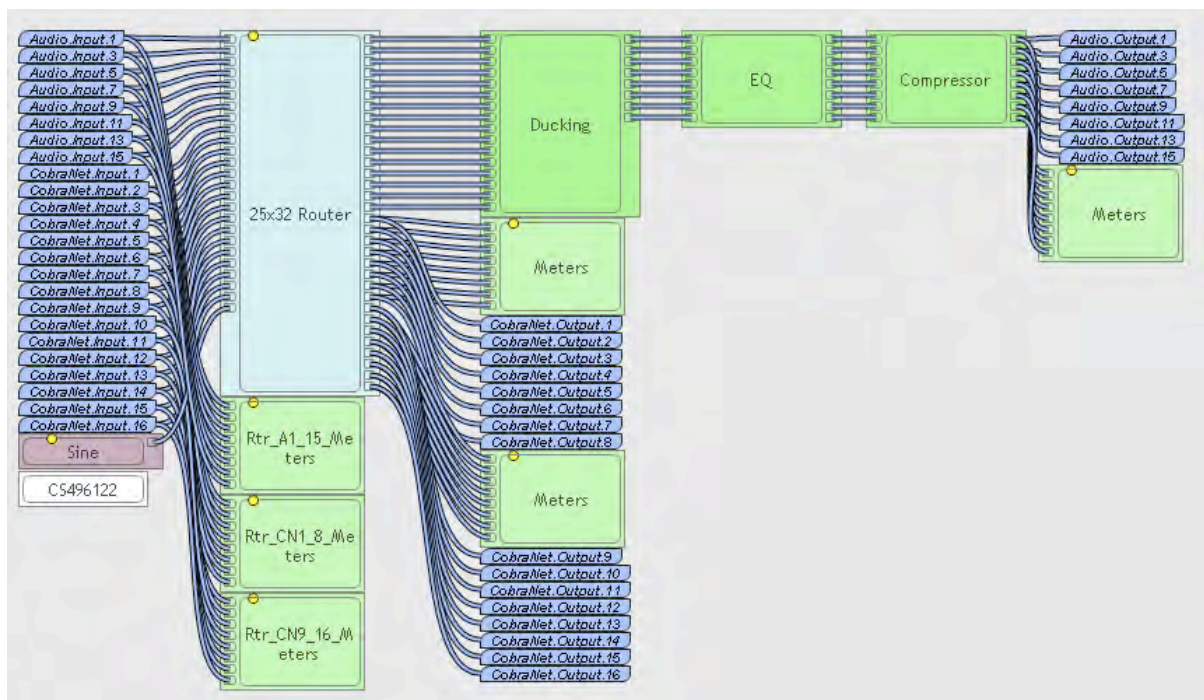

Figure 2-1: Block diagram showing the internal routing of the ION4.4/ION8.8
The ION 4.4 (ION8.8) is a CobraNet™ interface with 4 (8) analog Mic/line input channels and 4 (8) line level output channels. Any of the 4 (8) analog and 16 CobraNet™ inputs can be routed to any of the 4 (8) analog and 16 CobraNet™ outputs. See Figure 2-1 for details of the internal block diagram.